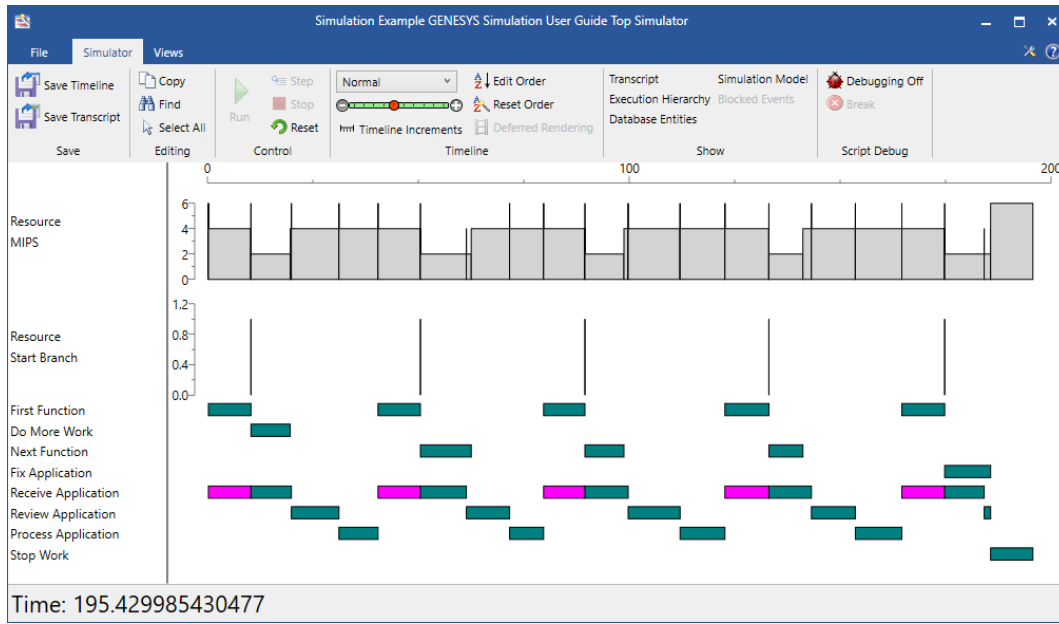

Figure 56 Loop Exit Model with Trigger-Type Resource
**Resources** can also be added to a model to provide control. Specifically, **Resources** can function as triggers. For example, one **Function** produces a trigger-type **Resource** that is then consumed by a subsequent **Function** awaiting the trigger-type Resource. Again, going back to our Loop Exit model, a Resource, Start Branch has been added to the model. First Function *produces* Start Branch which is *consumed by* Receive Application. The simulation results are shown in Figure 56. Note that Receive Application is delayed (magenta bar) until First Function completes execution, producing the **Resource**, Start Branch.